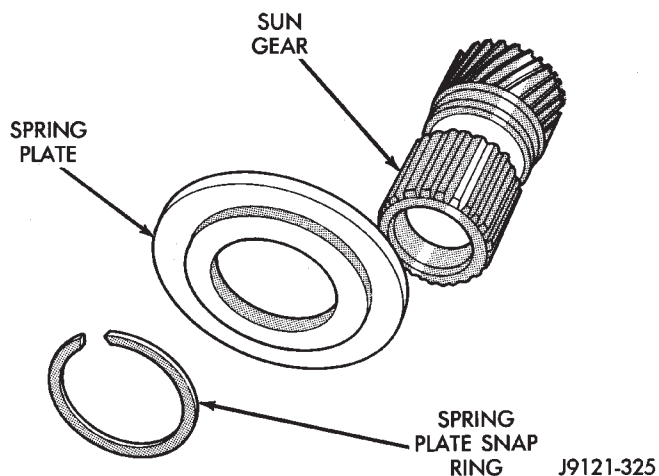

Fig. 285 Sun Gear And Spring Plate Assembly
(12) Install direct clutch spring plate on sun gear. Shoulder side of plate should face outward and toward front. Then secure plate to sun gear with snap ring (Fig. 285).